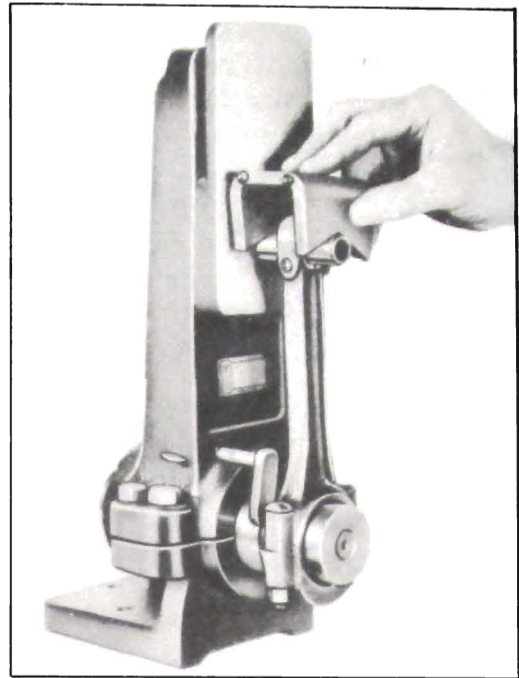

Figure 2-37—Checking Connecting Rod Alignment
1. Connecting rods may be sprung out of alignment in shipping or handling, therefore, they must always be checked before pistons are installed. Clamp a new piston pin in upper end of connecting rod and test the rod for twist and bend, using an accurate connecting rod aligning fixture. See figure 2-37. Bend or twist the rod if necessary, to secure proper alignment.